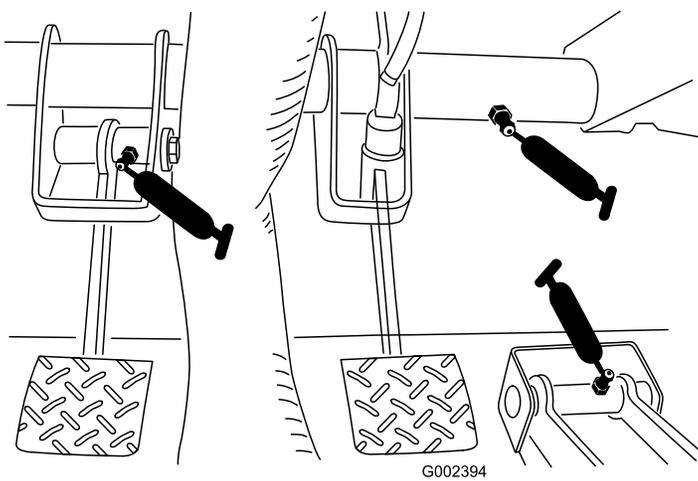

Figure 36
- Clutch (1), accelerator (1), brake (1) (Figure 36)